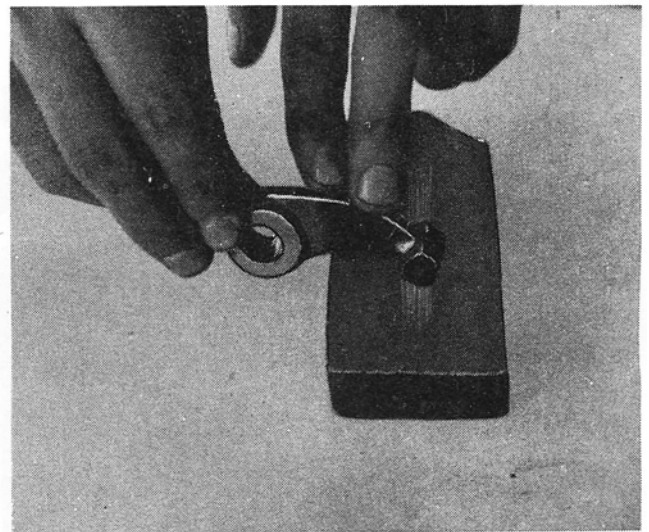

Figure 16
3. Check for any uneven wear or damage on the valve end of the rocker arm. Remove imperfections with an oil stone or grinder, see Figure 16. If wear or damage is severe, replace the rocker arm.